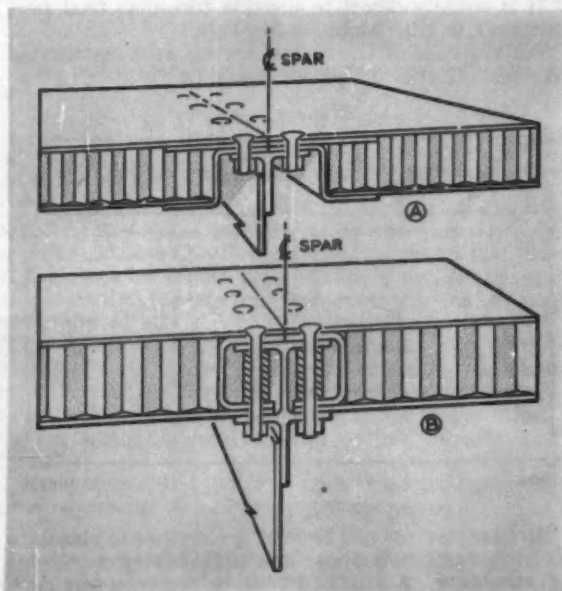

Fig. 2—Large spar fitting shows unwanted deviations from the normal flat sandwich planes desired for even brazing pressure distribution.
3. At the beginning of detail design, the designer should look for any basic design protuberances or deviations from the normal flat sandwich planes desired for even brazing pressure distribution. The large spar fitting, shown in Fig. 2, falls in this category. Moreover, because of its large mass this fitting forms a heat sink which can have great in-